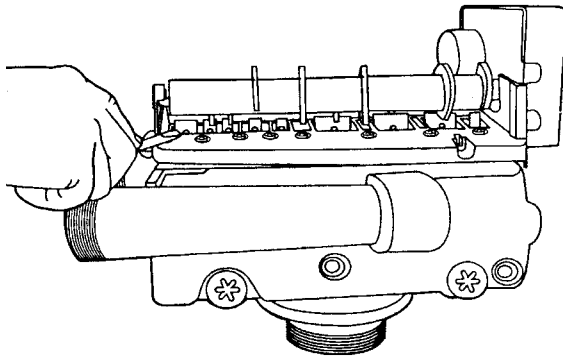

Figure 10
3. Remove the cover, and with a screwdriver, relieve tank pressure by pushing open valve No. 7 (rear flapper) on the control as shown (Figure 10).
3. Relieve system pressure by opening valve No. 7 (at rear) with a screwdriver (Figure 10).